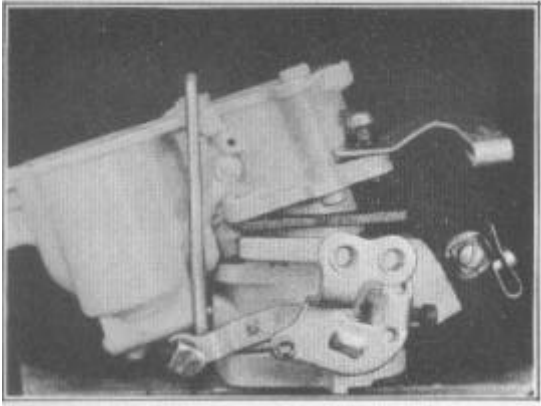

FIGURE 19
12. Remove body flange assembly from throttle body, also flange and idle passage sealing gaskets, Figure 19.